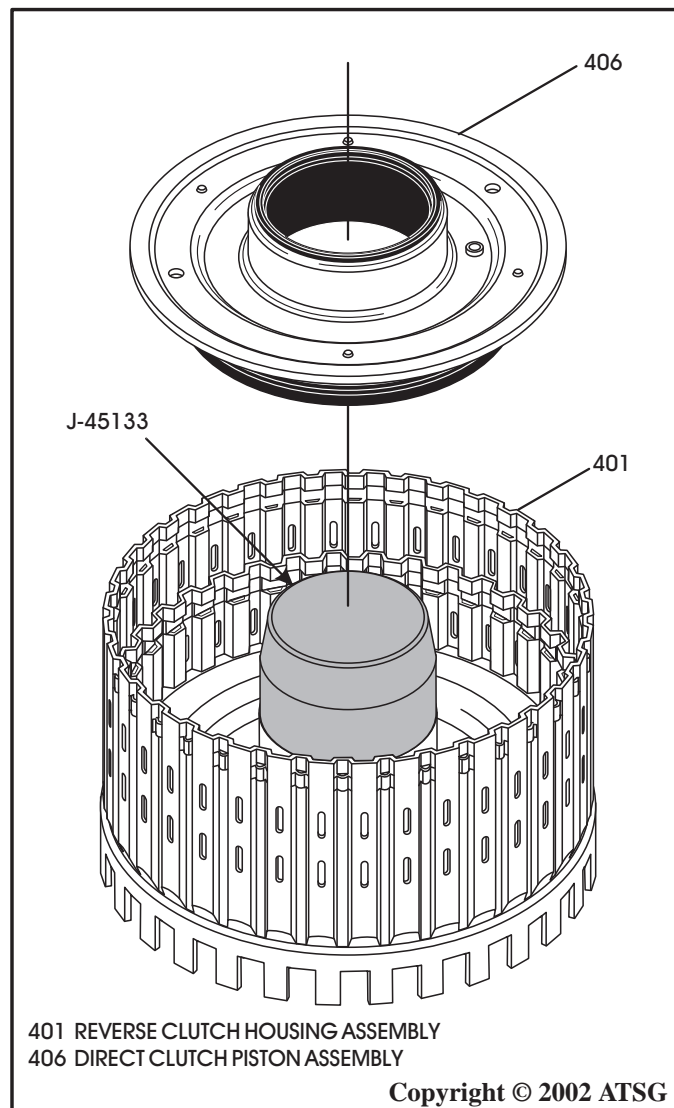

Figure 76
9. Install J-45133 seal protector onto the reverse housing, as shown in Figure 76.
10. Lubricate the molded seals with a small amount of Trans-Jel® and install direct clutch piston by rotating into position (See Figure 76).